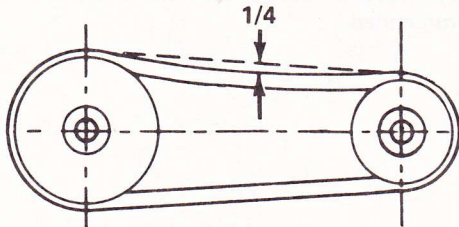

Figure 3
6. Adjust the belt tension so that pressure of fingers on the belt will deflect it readily as shown in figure 3. Excessive belt tension increases the load on the motor and decreases bearing life. Loose belts reduce operating efficiency and shorten belt life.